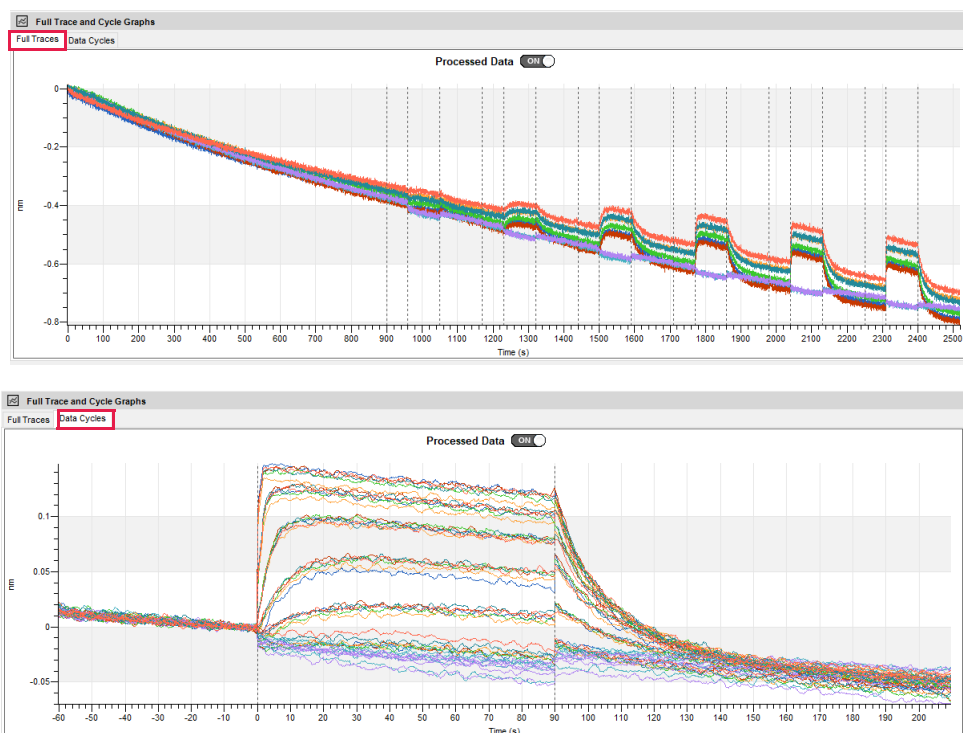

Figure 4-25: Corrected Data
- **Copy and Paste** - If multiple plates and sensor trays were overlaid to create a mega-experiment where all experiments were run in an identical manner, set the reference sensors and grouping on one sensor tray, and then copy and paste the configuration to the other sensor tray using the right-click menu. The corrected data displays in the Full Traces and Data Cycles tabs (Figure 4-25).